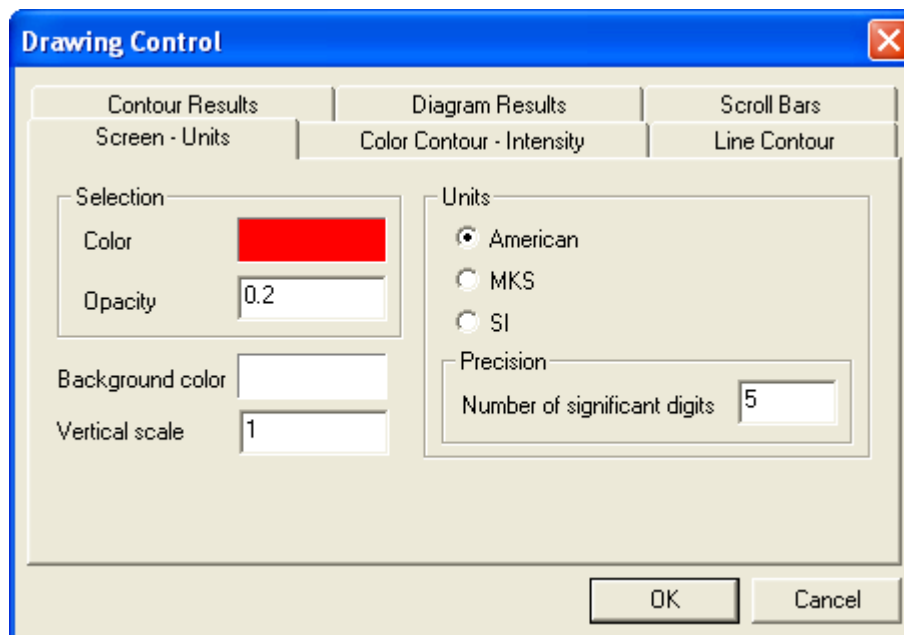

FIGURE 3.3-3 DRAWING CONTROL DIALOG WINDOW
**Results Display Settings.** This tool controls the graphics of all solutions. Once clicked, the dialog window shown in **Fig. 3.3-3** opens. Make modifications and click OK button to update the display of entities.